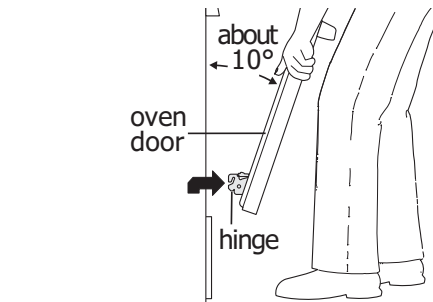
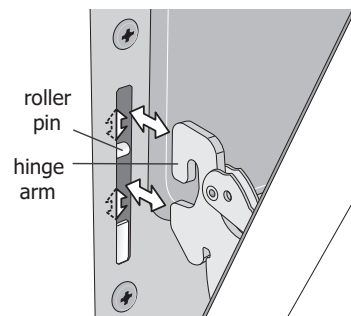

Figure 20: Holding door for removal
Figure 21: Replacement and location of hinge arm and roller pin
3. Firmly grasp both sides of oven door along the door sides. Do not use the oven door handle (See Figure 20).
5. Lift the oven door hinge arms over the roller pins located on each side of the oven frame (See Figure 20).
1. Firmly grasp both sides of oven door along the door sides. Do not use the oven door handle (See Figure 20).
2. Holding the oven door at the same angle as the removal position, seat the hook of the hinge arm over the roller pins located on each side of the oven door frame (See Figure 20 and Figure 21). The hook of the hinge arms must be fully seated onto the roller pins.